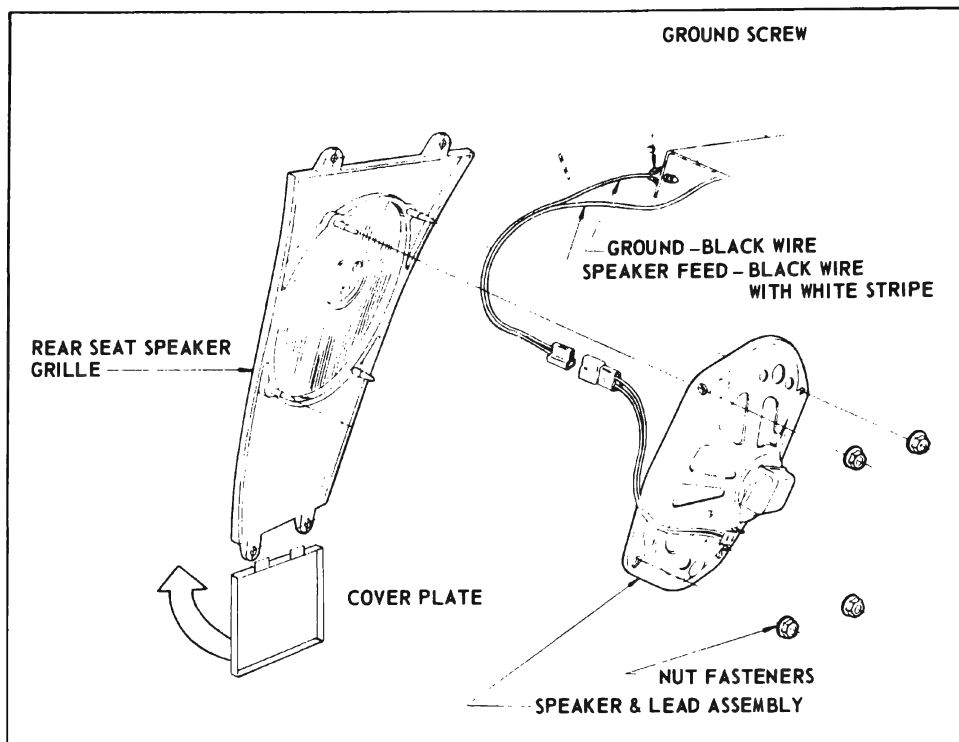

Figure 11-27—Rear Speaker Installation - 4700 Series
1. Remove cover plate (see Figure 11-27) located directly under